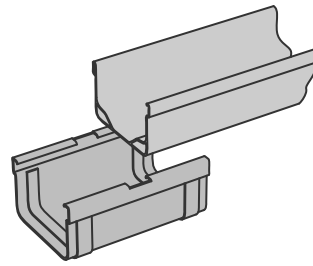
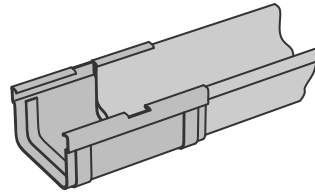

Fig. 8
Fig. 9
6.1. Line the first gutter end up with the fitting tab (Fig. 8) and clip the fitting over the gutter profile from below (Fig. 9).